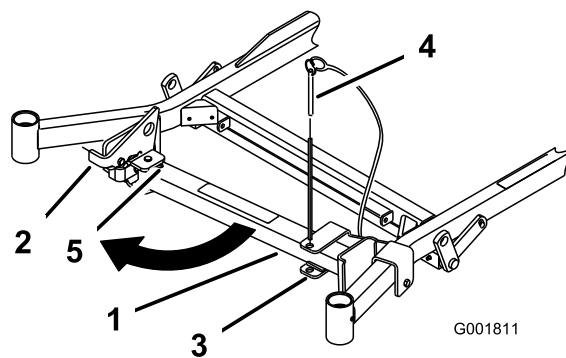
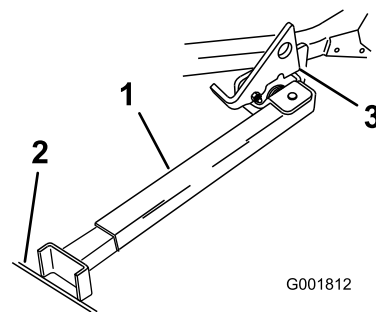

Figure 31
Figure 32
2. Remove the bracket pin (Figure 31).
3. Raise the latch. Swing the stand foot out front and slide stand toward machine, into the bottom of slot (Figure 31 and Figure 32).
6. Set the foot of stand on the ground and rest the latch on the pivot tab (Figure 32).
Note: For best results, place the foot of stand into seams in sidewalks or into the turf (Figure 32).
8. Drive onto the stand. Stop when the latch drops over the tab into the locked position (Figure 32). Once onto the stand, engage the parking brake and turn off the engine.
7. Return the stand to its rest position (Figure 31).